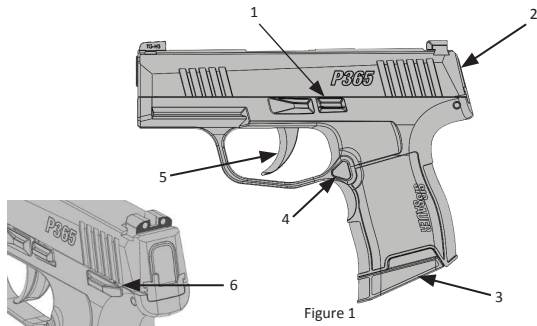

Figure 1
9. Press trigger (Figure 1, Item 5) to rear and **HOLD**. The striker should release and you should hear and feel a loud audible click.
10. With trigger (Figure 1, Item 5) still pressed to rear, pull slide completely to the rear and release.